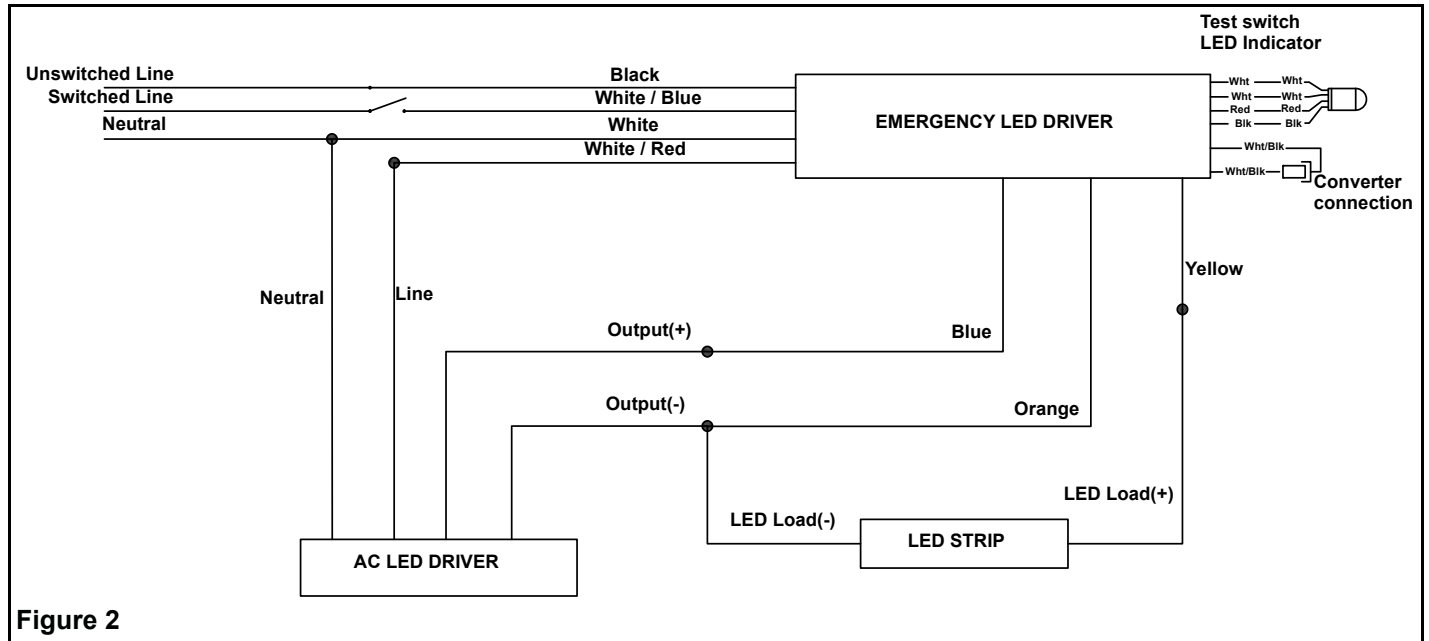

Figure 2
4. Wire the Emergency LED Driver to the LED driver (see figure 2)
Wiring the Emergency LED Driver (see figure 2)